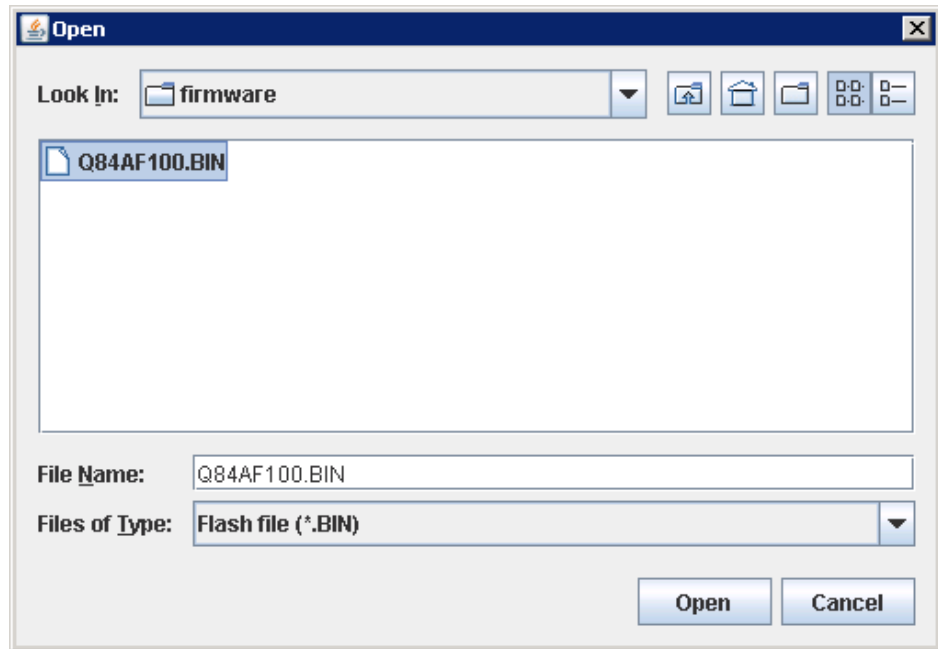

Figure 72 Open dialog box
4. An **Open** dialog box displays, as shown in Figure 72 on page 95. Browse to the location of your firmware file that you wish to load. This file could be included on EMC-Approved installation media, or can be downloaded from the QLogic website as described “Downloading latest QLogic drivers/firmware/BIOS files” on page 16.